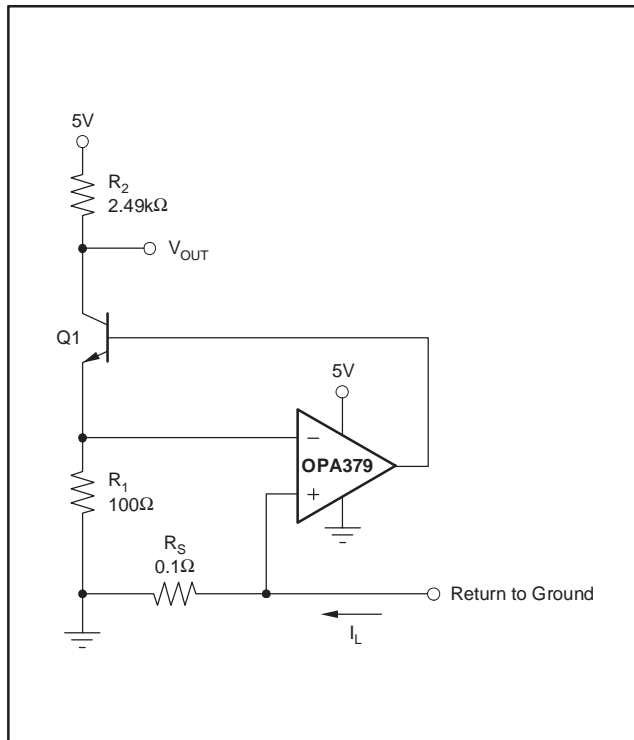

Figure 5. Low-Side Current Monitor
The micropower OPA379 is well suited for current monitoring circuits in applications such as a voltage regulator with fold-back current limiting, or a high-current power supply with crowbar protection. Figure 5 shows the OPA379 monitoring the current in a power-supply return path using a 0.1Ω shunt resistor. The NPN transistor, Q1 (2N2222 or equivalent) is used to generate equal voltages at the inverting and noninverting inputs. Therefore, the voltage drops across R1 and RS are equal, and the current flowing through Q1 is directly proportional to the current flowing through RS. As the load current increases, the current through Q1 increases, the voltage drop across R2 increases, and this decreases the output voltage, VOUT, as shown in Equation (5):